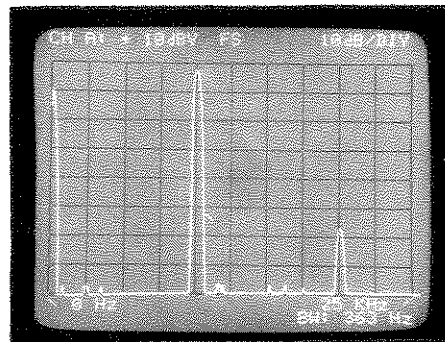

Figure 3-7. A Sine Wave Spectrum using the FLAT TOP Passband.
c. Adjust the function generator for a 10 kHz sine wave and a full scale display on the 3582A (approximately 3 V). The spectrum should appear as in Figure 3-7.